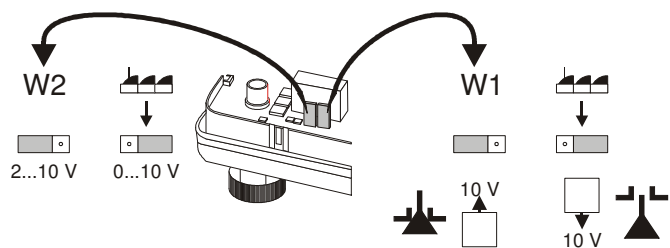

Fig. 1. Jumper plugs W1 and W2
The range of the analog input signal Y (0...10 Vdc or 2...10 Vdc) can be selected by changing the position of jumper plug W2 (see Fig. 1). The factory set is at 0...10 Vdc.
The direction of action (direct or reverse) can be selected by changing the position of jumper plug W1 (see Fig. 1). It is set by the factory such that the stem extends at increasing signal and retracts at decreasing signal (direct action).
**NOTE:** Jumper plugs W1 and W2 are accessible after the cover has been removed (see Fig. 1).